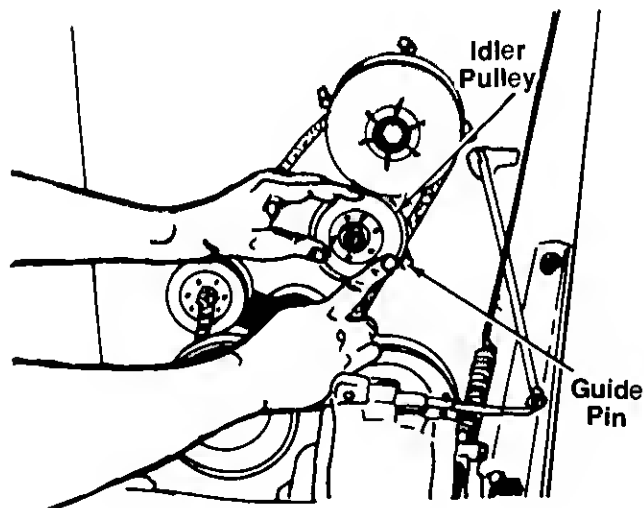

FIGURE 35.
13. When sliding the idler pulley on the idler bracket, be certain the belt is between the pulley and guide pin. See figure 35.